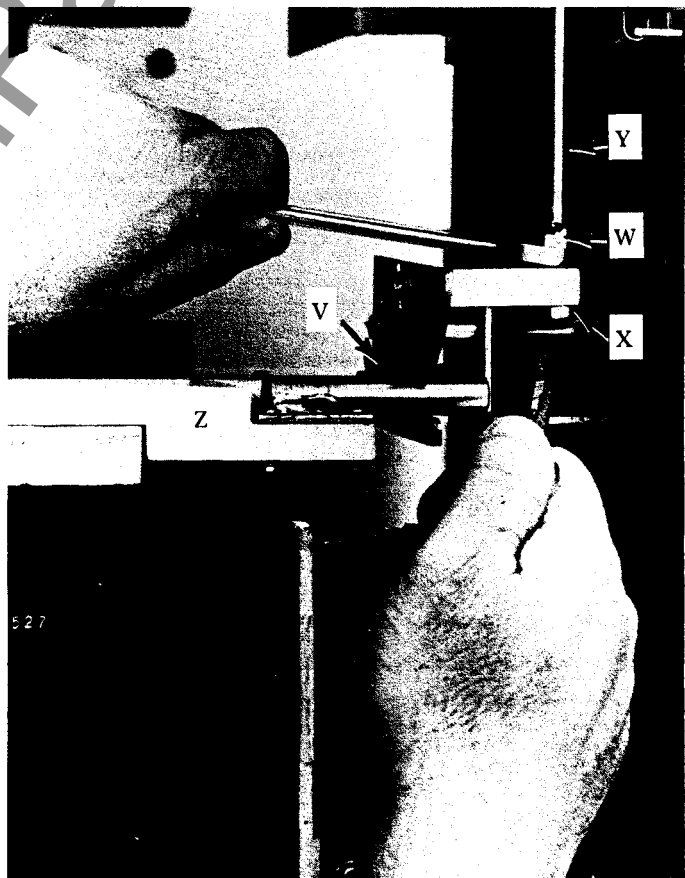

Figure 40. Adjusting the interlock mechanism
If the mechanism fails to meet any of the above checks, an adjustment must be made to the interlock assembly as detailed below and shown in Figure 40.
- A. Loosen the bottom locking nut (X), Figure 40, while holding the top adjusting nut (W) firmly in position. Also loosen the two retaining nuts at the top of the armature interlock rod (Y).